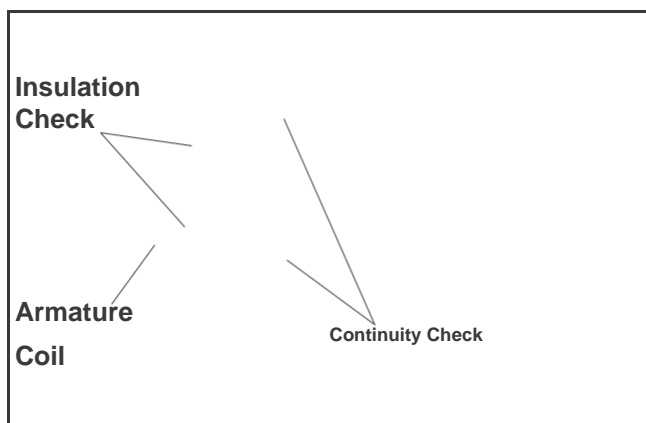

Figure 8-42. Armature Checks.
2. Use an ohmmeter set to the Rx1 scale. Touch the probes between two different segments of the commutator, and check for continuity. See Figure 8-42. Test all the segments. Continuity **must** exist between all or the armature is bad.
3. Check for continuity between the armature coil segments and the commutator segments. See Figure 8-42. There should be no continuity. If continuity exists between any two, the armature is bad.